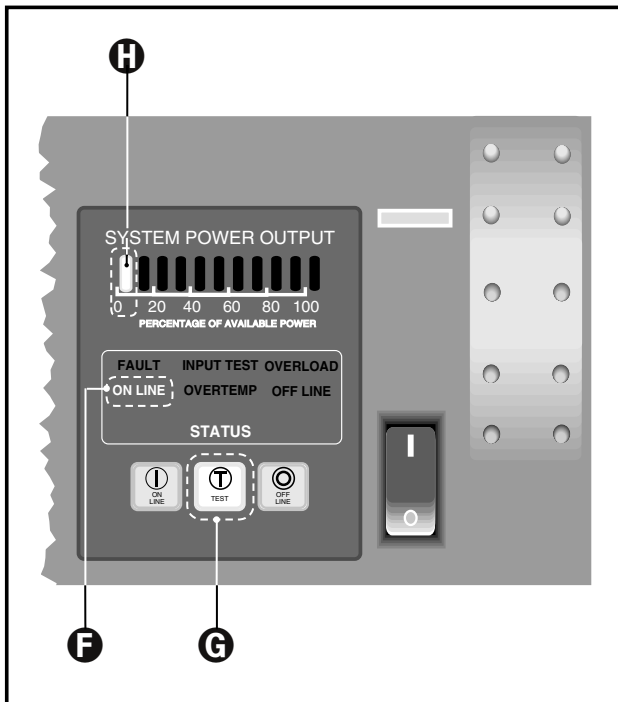

Figure 11-2 System Test Controls and Indicators
2. Position the probe so that its horn is not in contact with anything. Do not hold the probe if you are not accustomed to ultrasonic welding. The initial ultrasonic sensation may surprise you and cause you to drop the probe. Momentarily press the generator control **TEST** key (G in Figure 11-2). The following conditions should occur.
3. One green segment of the System Power Output bar display will light up indicating normal operation (H in Figure 11-2.)